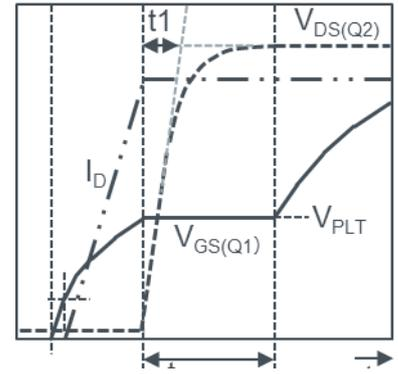

Figure 16. Q2  $V_{DS}$  actual waveform when Q1 is on
-t1 is the time to the point where the tangent line of the steepest point of  $V_{DS}$  and the supply voltage intersect in actual operation. Set t1 to 1/2 of  $t_{ON}$ . (See Fig.16)